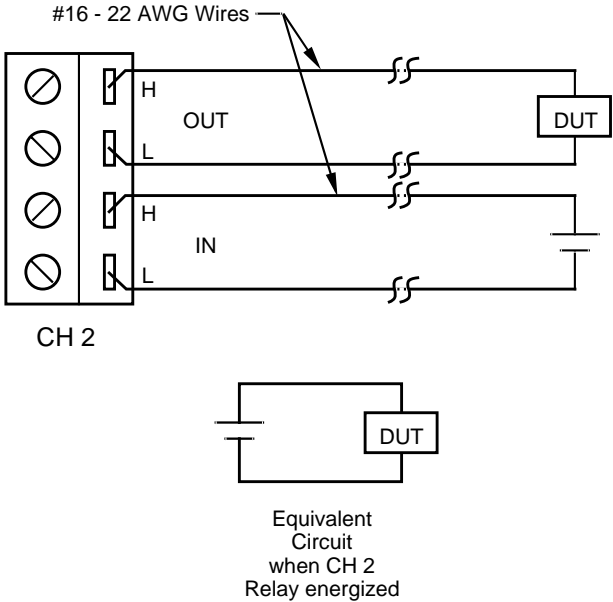

Figure 3-2
2. Using an insulated screwdriver, connect the circuitry to the appropriate terminals. Figure 3-2 shows how connections would be made to deliver power to a DUT (device under test) using Channel 2.